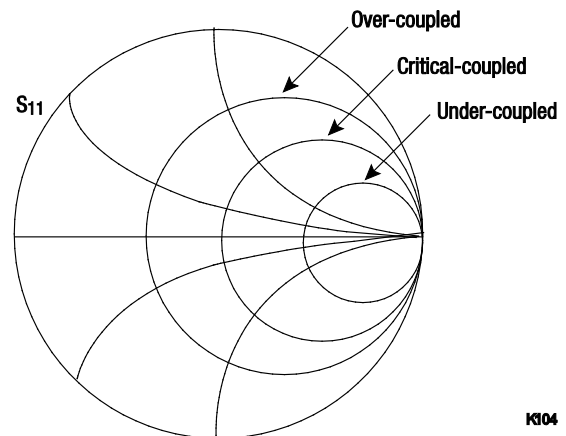

Figure 2. Smith Chart Coupled Responses
4. Insert the resonator's tab into the brass slot until critical coupling ($b = 1$, $R = Z_0$) is achieved (as shown in Figure 2).